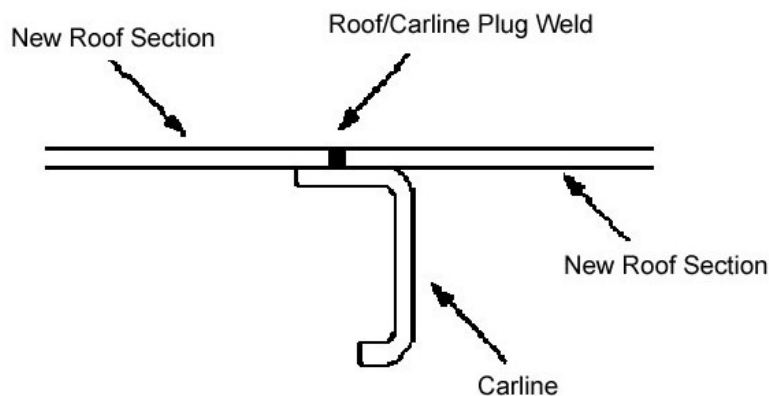

Figure 4: Roof to Carline Plug Weld
2.4 Manufacture a new panel in sections to overlap the hole by 5mm all round, with a 2mm gap at carlines for plug welding the two adjacent sections to the carline (see Figure 4).